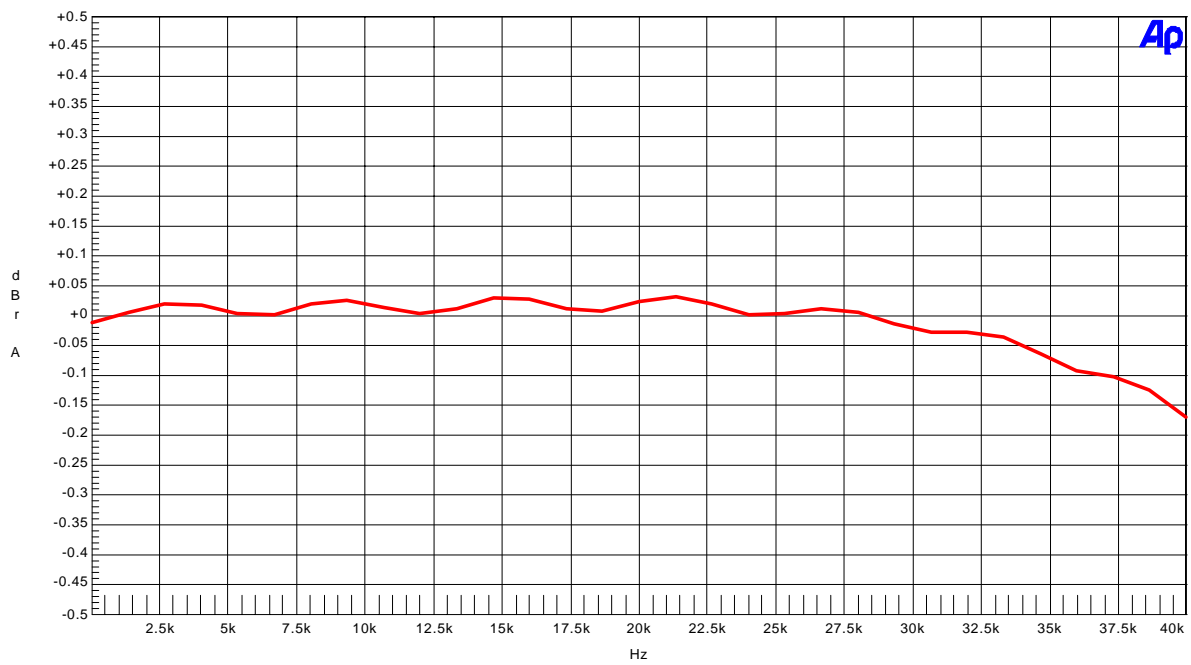

Figure 23. Frequency Response (Input level=0dBFS)
- Figure 23. Frequency Response (Input level=0dBFS)